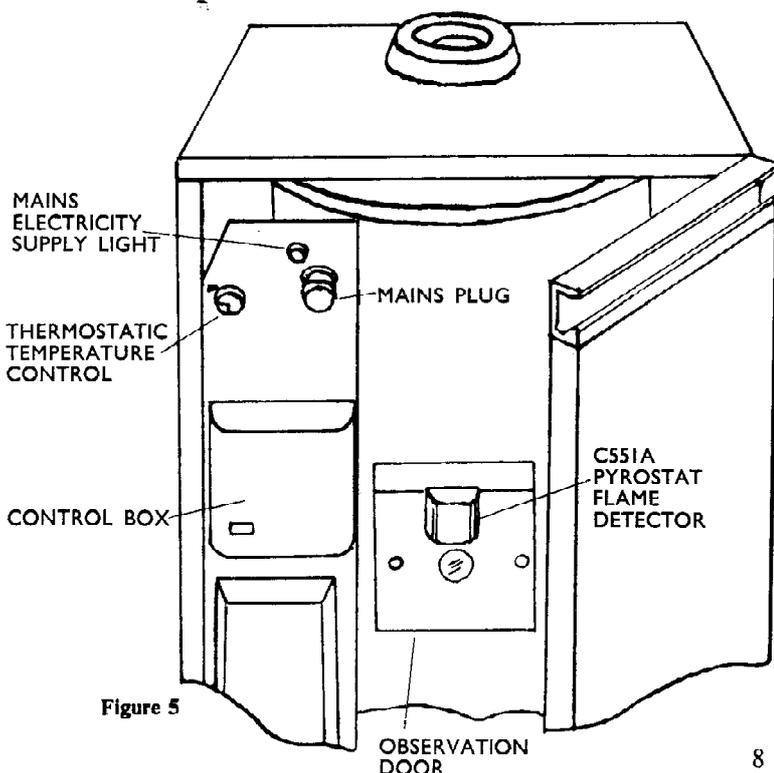

Figure 5
**The Thermostatic Temperature Control** This is fixed to the control panel within the boiler (see Fig. 5). Desired boiler water temperatures are obtained by turning the thermostat control to any selected temperature reading between 140-180°F, the recommended maximum temperature setting is 180°F. The minimum setting is 140°F, below this, the boiler will not operate efficiently. (see Cycling of Burner page 11).